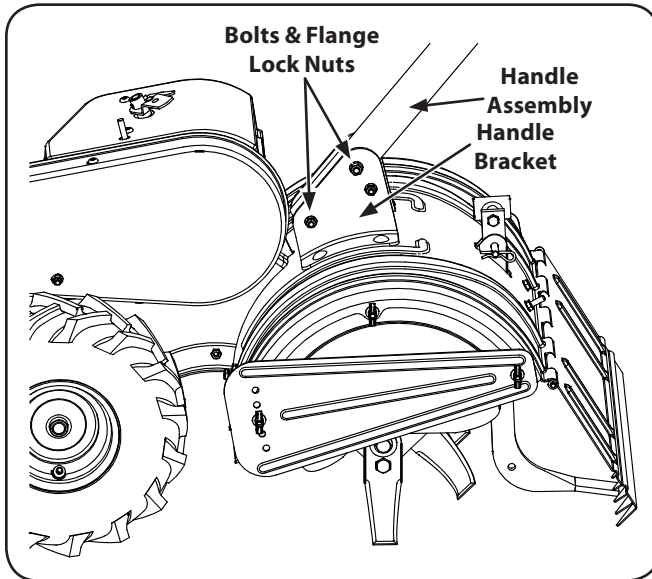

Figure 3-2
1. Remove the top two bolts and flange lock nuts from handle mounting brackets, but do not remove the bottom bolt and nut. See Fig. 3-2.